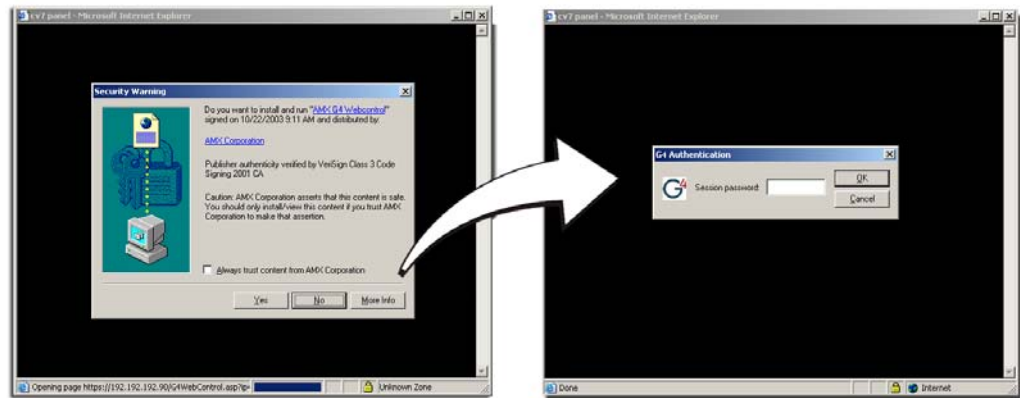

FIG. 54 Web Control VNC installation and Password entry screens
- Click on the G4 panel name link associated with the target panel. A secondary web browser window appears on the screen (FIG. 54).